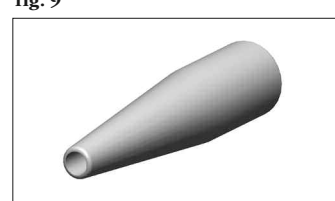

fig. 11
The conical piece fig. 11 can be useful for connecting the cooling tube to the Unit tube ⑦ fig. 12.